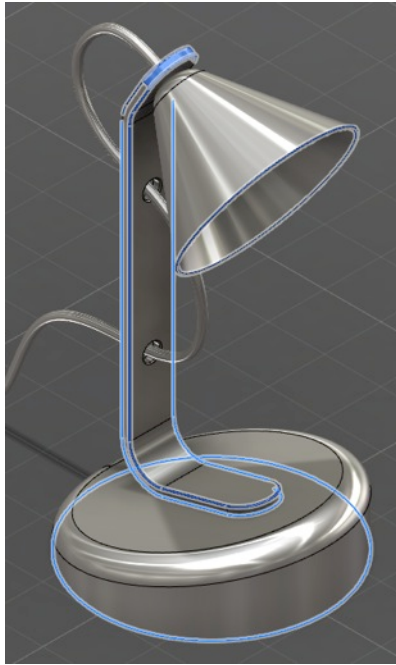

Fig. L20
23. Use press pull to add fillets to the following parts (Fig.L20):